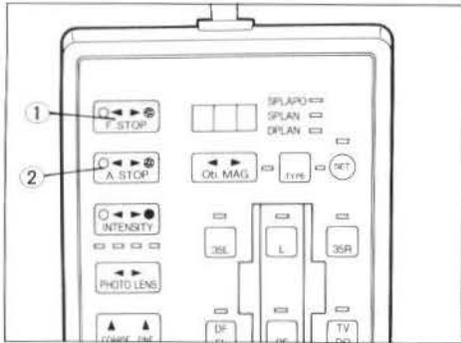

Fig. 29
Press the position marked "O" on the field iris diaphragm button ① on the control box until a beep is heard. (Fig. 29)
Press the position marked "O" on the aperture iris diaphragm button ② on the control box until a beep is heard. (Fig. 29)